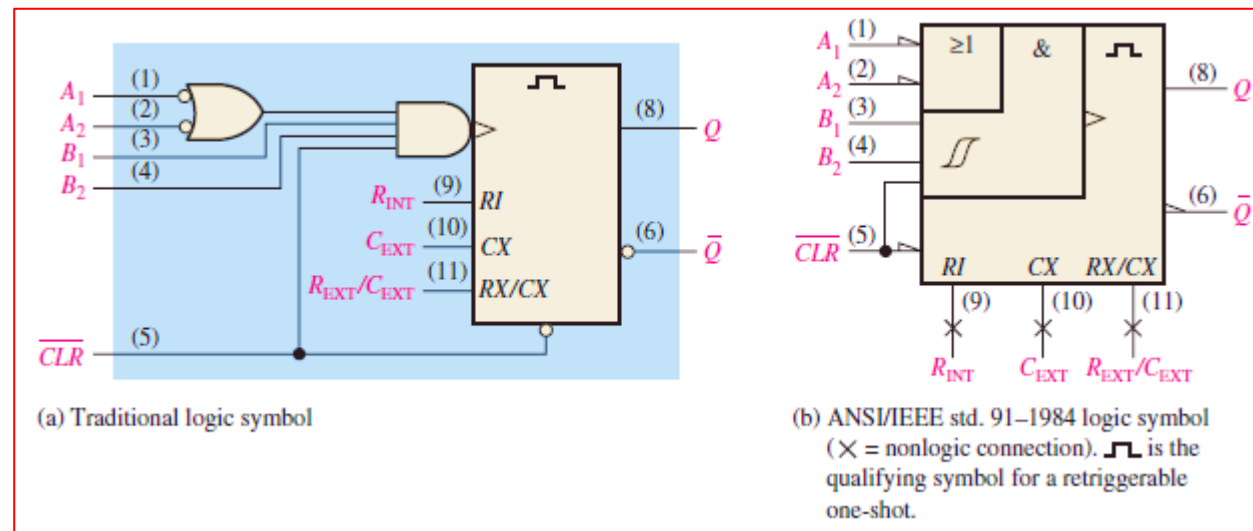

FIGURE 49 Logic symbol for the 74LS122 retriggerable one-shot.
- The 74LS122 is an example of a retriggerable IC one-shot with a clear input. It also has provisions for external R and C , as shown in Figure 49. The inputs labeled A_1 , A_2 , B_1 , and B_2 are the gated trigger inputs.